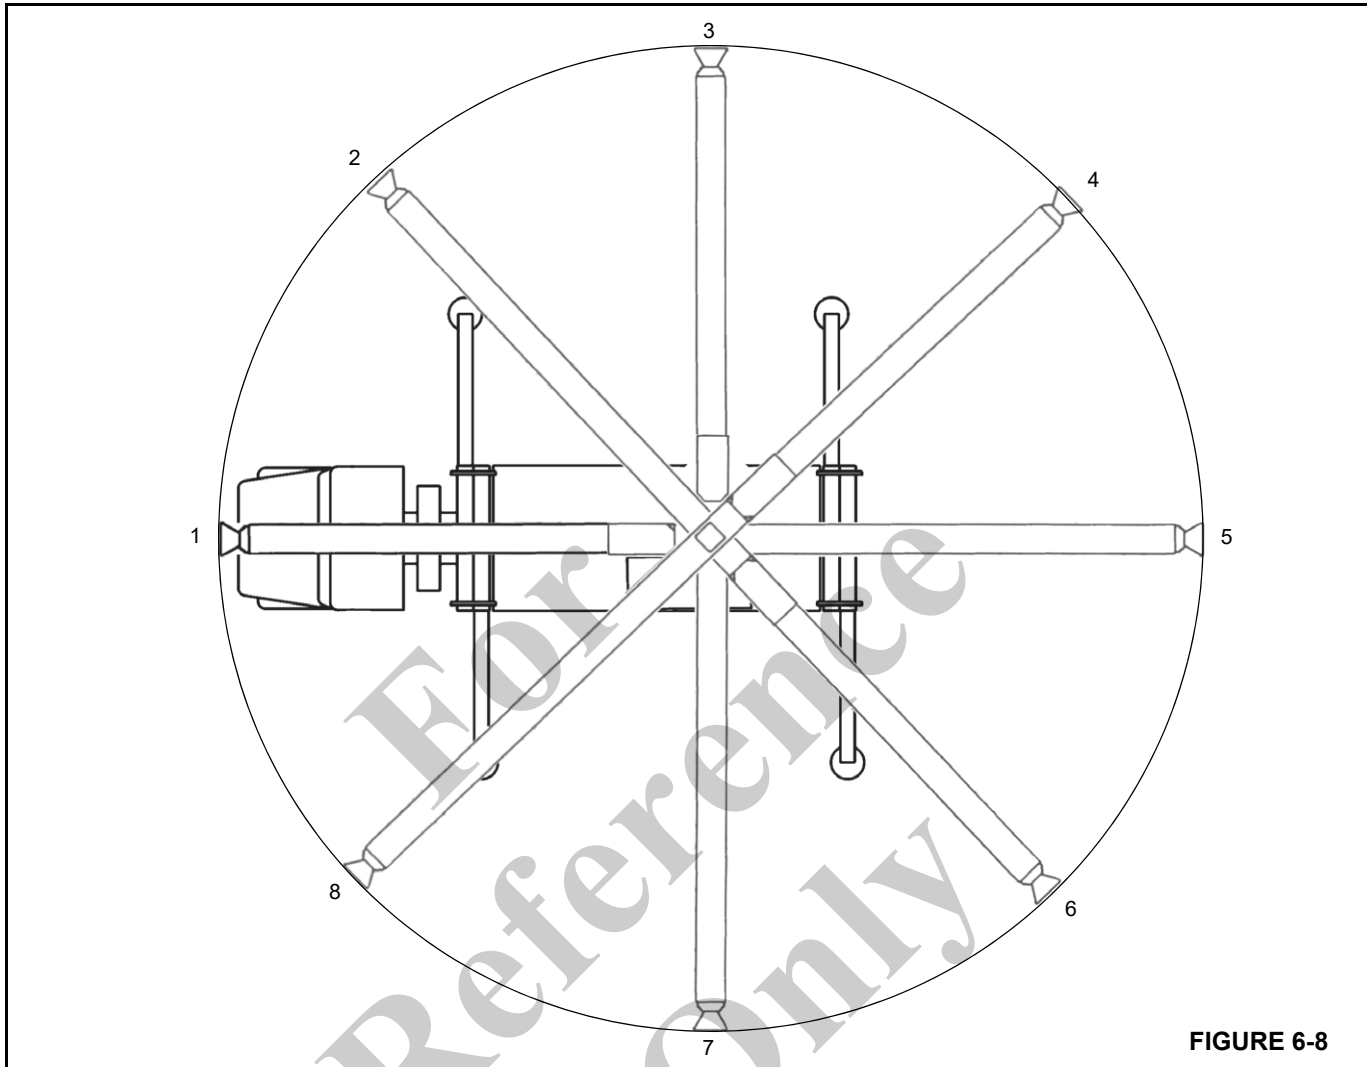

FIGURE 6-8
10. If the average is less than 2.2 mm (0.090 in), repeat the measurement at every 45° around the total working area of the crane (Figure 6-8).